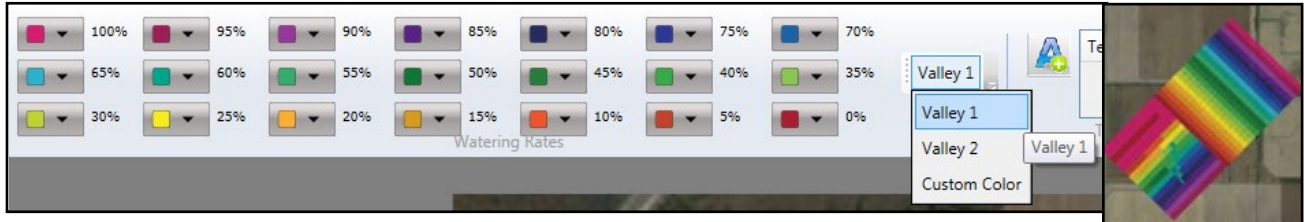

Figure 19-1
The Watering Rate buttons are used with any of the Drawing Tools buttons to describe the amount of water to be applied to sectors. The color-coded buttons range in 5 percent increments from 0 to 100 percent. This is the percent of application depth. See Figure 19-1. For example: If the application rate (base rate) is 1 in (0.0254 mm) and the water rate is 50% the applied rate would be 1/2 in (0.0127 mm) or $AR \times WR = \text{Applied Rate}$.
As you may have noticed in Figure 19-1 there is an open drop down menu that can be used to select 3 possible Watering Rate Color pallets.
- (1) **Valley 1** (Figure 19-1) which is based off of a gradient system similar to that of a soil map.